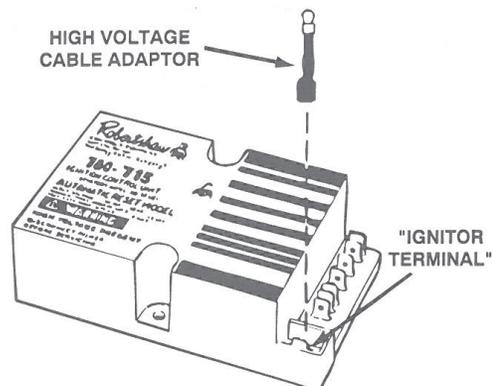

Figure 10
D. Locate the high voltage cable adaptor included in the kit. Attach it to the "IGNITOR" terminal on the new ignition control unit. (See Figure 10.)